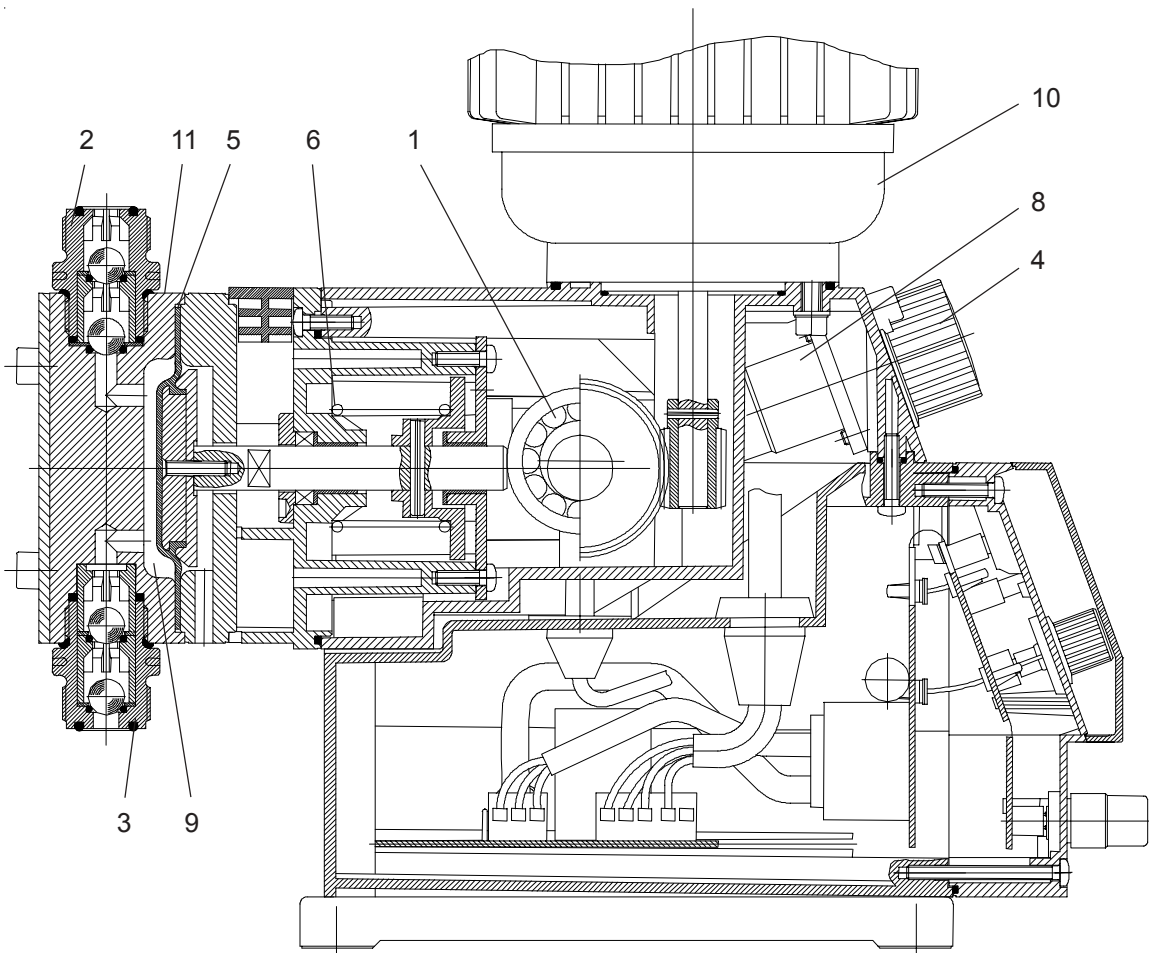

Figure 3.2 - Pump Cutaway
Chem-Ad Series C is a mechanically actuated diaphragm metering pump driven by an electric motor (10). A flat diaphragm (5) between the pump head (11) and the pump housing moves backward and forward that produces the pumping action through two ball checks (2, 3) inside the pumping chamber (9). An eccentric/cam (1) moves the diaphragm (5) forward and a spring (6) push it back towards a stop (8). The stop position is adjusted by turning the stroke control knob (4). At zero stroke the stop is all the way in preventing the diaphragm plunger to return against the cam. At full stroke the stop is retracted, allowing the diaphragm plunger to ride the full lobe of the cam which corresponds to the full capacity of the pump. See Figure 3.2.